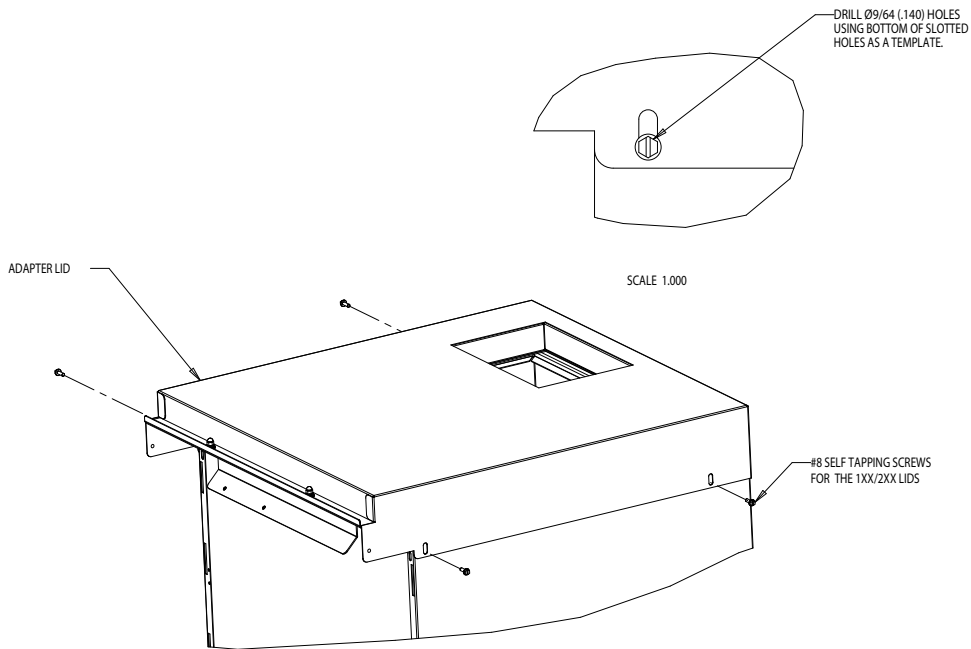

Figure 2.
5. Set and secure adapter lid onto the dispenser as shown in Figure 2.